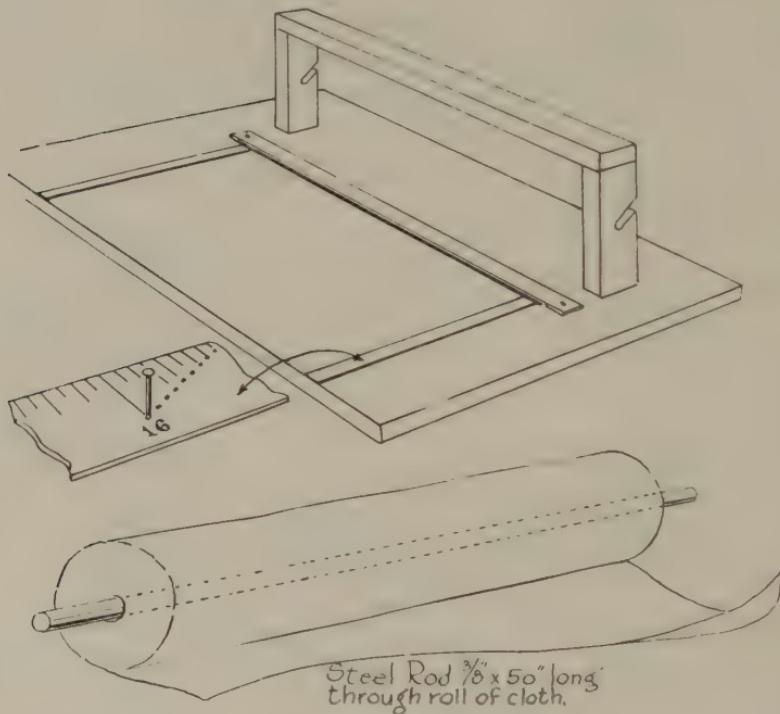

FIG. 94
1. At one side near one end of any bench or table to be used for cloth and leather cutting (with bins underneath or nearby) build a frame of 2" x 4" pine joist, planed foursides. (Fig. 94.)
4. Secure a $\frac{1}{2}$ " diameter (hardened) round steel rod 50" long. (Fig. 94.).